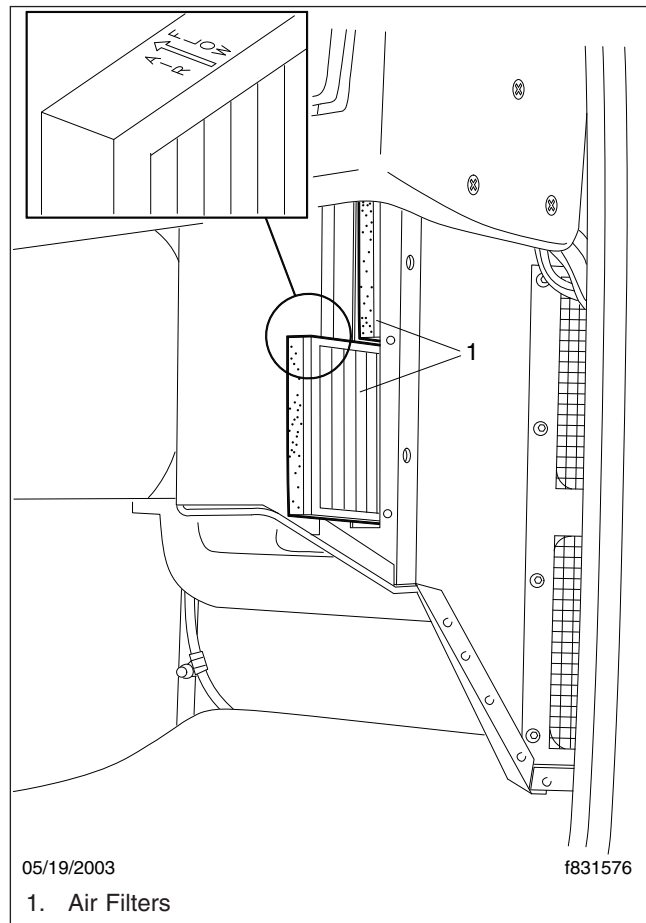

Fig. 3, Cab Fresh-Air Filters
4. Remove the two air filters from the air intake plenum. See Fig. 3.
5. Install two new air filters in the air intake plenum. Make sure the arrow on the air filter is pointing in the direction shown in Fig. 3.
6. Install the air filters in the air intake plenum. Make sure the arrow on the air filter is pointing in the direction shown in Fig. 3.